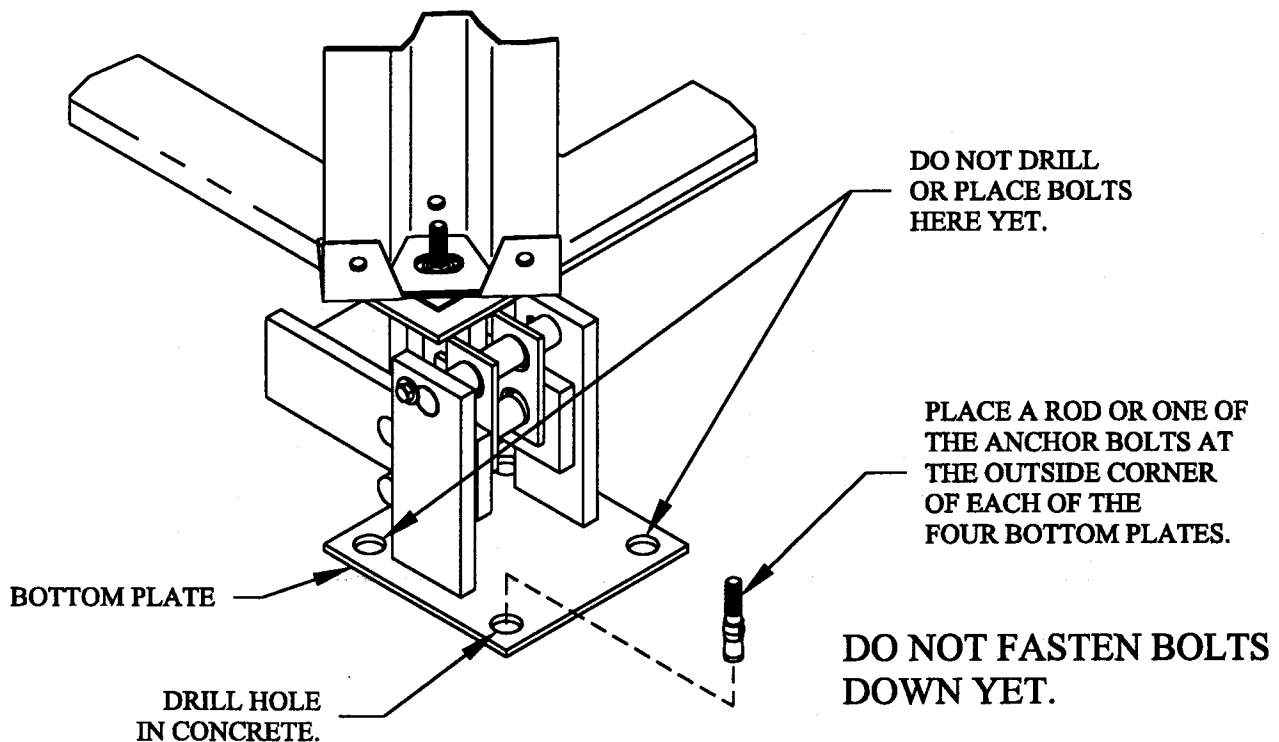

FIG. 12A
STEP 12A. The position of the scale may change when the fill system is attached. In order to limit the displacement of the scale, drill a hole in the concrete through the outermost hole in each bottom plate. Then drop a rod or the anchor bolts (supplied) into the holes. Do not tighten anything down yet. See Fig. 12A. Attach the bin cap and transition to the bin and connect all fill systems, augers and motors. Remember to allow clearance for pvc to expand. Scale will not weigh correctly if pvc is tight through the hole in the house.